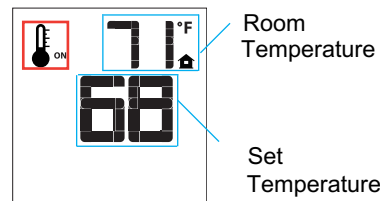

Figure 50 - Remote Control Displaying Room Temperature and Set Temperature
1. To activate this function, press the Thermostat key. The LCD display on the transmitter will change to show that the room thermostat is ON and the set temperature is now displayed (see Figure 50).
2. Adjust the set temperature by pressing the up or down-arrow keys until the desired set temperature is displayed on the LCD screen (see Figure 50).